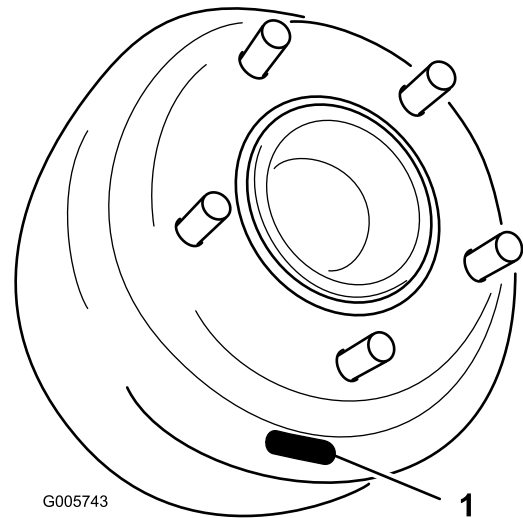
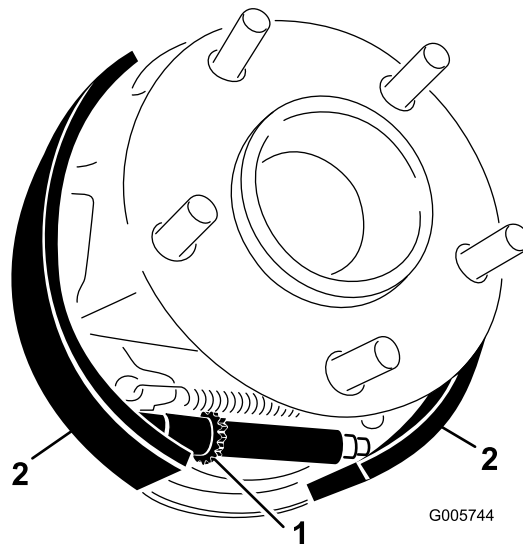

Figure 63
Figure 64
at bottom and centered over star nut that adjusts brake shoes (Figure 63).
6. Using a brake adjusting tool or screwdriver, rotate star nut (Figure 63) down until brake drum (Figure 64) locks because of outward pressure of brake shoes (Figure 64).